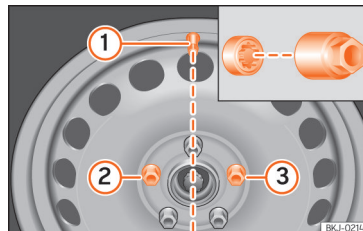

Fig. 38 Wheel change: tyre valve ① and the correct position for the anti-theft wheel locking bolt ② or ③.
In wheels with full hubcaps, the anti-theft locking bolt must be threaded onto positions » Fig. 38 ② or ③, taking the tyre valve's position as reference ①. Otherwise it will not be possible to mount the hubcap.